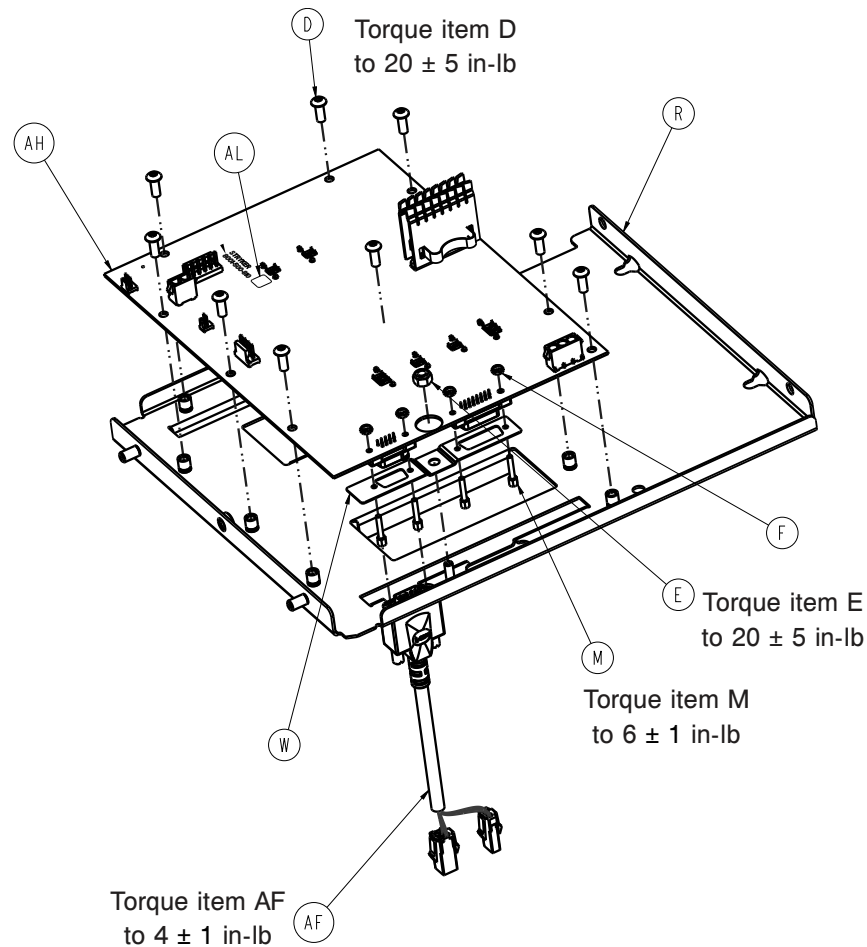

Figure 30 – Fluid grounding bracket
16. Using a T25 Torx driver, remove the nine screws (D) that secure the fluid management board to the control assembly base (R) (Figure 30). Save the screws.
17. Using a 3/8" socket, remove the nut (E) that secures the fluid grounding bracket to the control assembly base (Figure 30). Save the nut.